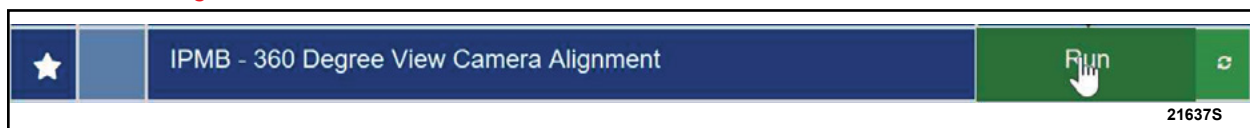

FIGURE 20
- a. From the list on the RH side of the screen, select **IPMB - 360 Degree View Camera Alignment**. See Figure 20.*
- b. Click **RUN**. Follow all on-screen instructions carefully. See Figure 20.*